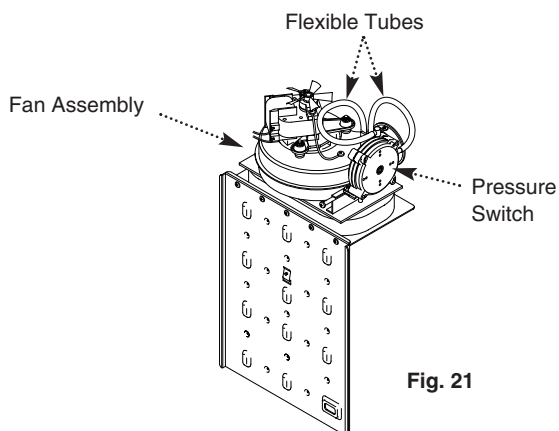

Fig. 21
5. Re-assemble the fan assembly and combustion box door ensuring that the flexible tubes from the fan unit to the pressure switch are routed correctly and that they are not kinked or flattened (Fig. 21).